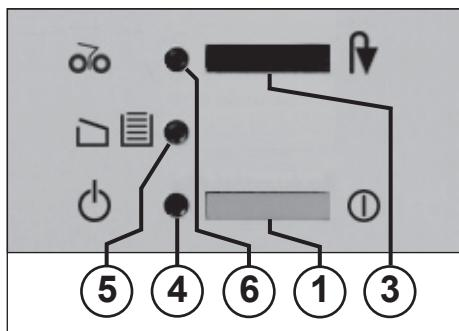

Fig. 1
3 = Pushbutton switch (fig. 1)
4 = Pilot lamp (fig. 1)
5 = Pilot lamp (fig. 1)
6 = Pilot lamp (fig. 1)
- Turn machine on with pushbutton switch (1) (fig. 1). Pilot lamp lights up (4) (fig. 1).
Once the collecting bag is full, the machine switches off. The pilot lamp „Container full“ / „Door open“ (5) (fig. 1) **flashes**. To show that the cutting mechanism has stopped, the pilot lamp „Paper jam“ / „Stop“ (6) lights up.
- Move back the sliding frame with the collecting bag and close door. The pilot lamp (5) (fig. 1) goes off.
- Briefly press the pushbutton switch „Backward operation“ / „Stop“ (3). The cutting mechanism shreds what remains in the feed shaft and then switches off. The pilot lamp (6) goes out. You can now continue shredding.
- The pilot lamp (6) (fig. 1) lights up.
- **Continuously** press pushbutton switch „Backward operation“ / „Stop“ (3) while simultaneously removing from the machine any documents that were being fed in.
- After removal, the cutting mechanism automatically runs forwards, shreds any remnants remaining in the inlet slot and then switches off. The pilot lamp (6) (fig. 1) goes out.